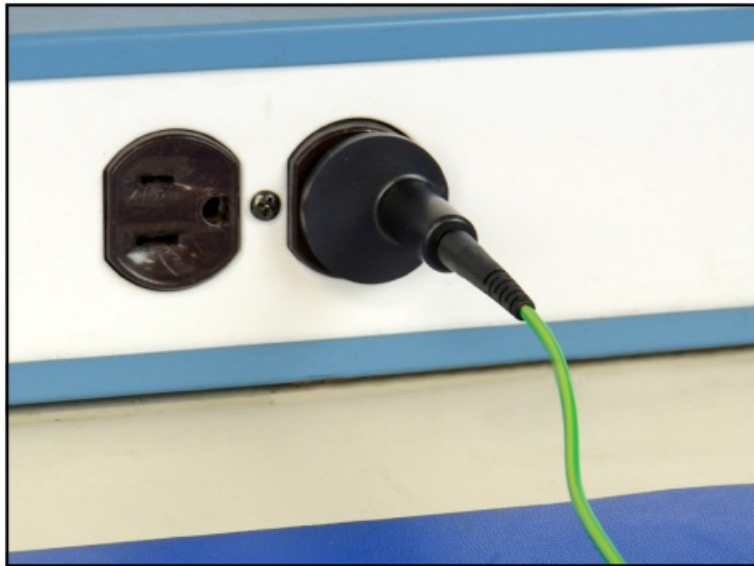

Figure 3. Using the Ground Plug Adapter to ground the Wave Distortion Monitor Verification Tester
1. Connect the Wave Distortion Monitor Verification Tester's green ground lead to equipment ground. This may be done using the included Ground Plug Adapter or alligator clip. See Figure 3.
This may be done using the included Ground Plug Adapter or alligator clip. See Figure 3.
1. This may be done using the included Ground Plug Adapter or alligator clip. See Figure 3.